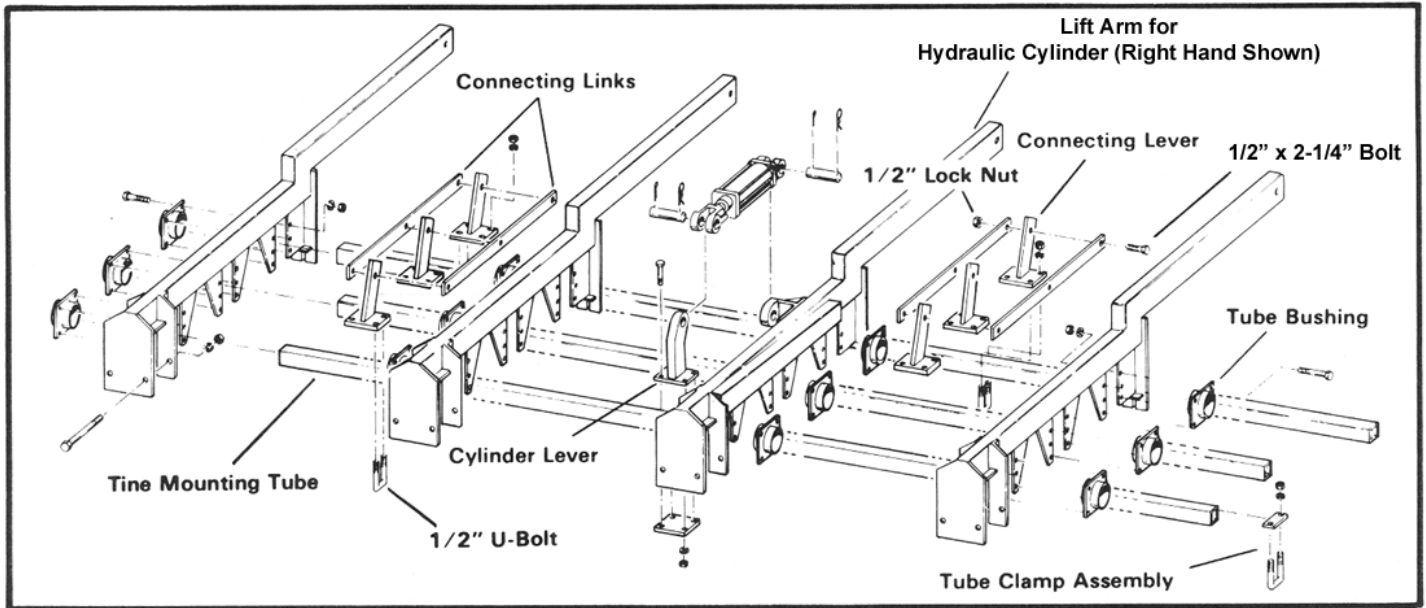

Fig. 15 Lift Arms and Tine Tube Assembly
Referring to figures 15, 16 and 17, position all lift arms and secure in place with two 1/2 x 7-1/2" bolts, lockwashers and nuts. Lift arm spacing is determined by referring to legend and schematic of respective model represented in Fig. 17.
**NOTE: Special lift arms are used where hydraulic cylinders are located. These special lift arms are left or right handed (Fig. 15)**
Tine tubes should be assembled to lift arms as shown in Fig. 15. Secure tube bushings in place with four 7/16" x 1" bolts, lockwashers and nuts. See Fig. 17 for tine tube lengths.
Refer to figures 15 and 16 and position hydraulic cylinder levers and plates, securing with four 5/8" x 4" bolts, lockwashers and nuts.
The Superweeder Hydraulic Depth Control System requires one hydraulic cylinder per section to rotate S-tines up or down. Mount these cylinders on special lift arms as shown in figure 15. Assemble hose lines as shown in figure 22 and pages 4-